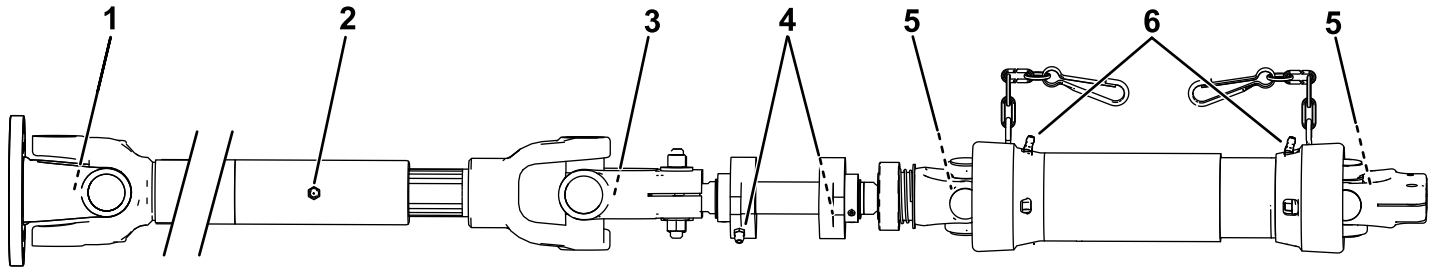

Figure 23
2. There are 9 grease points; refer to the mount kit service decal or Figure 23.